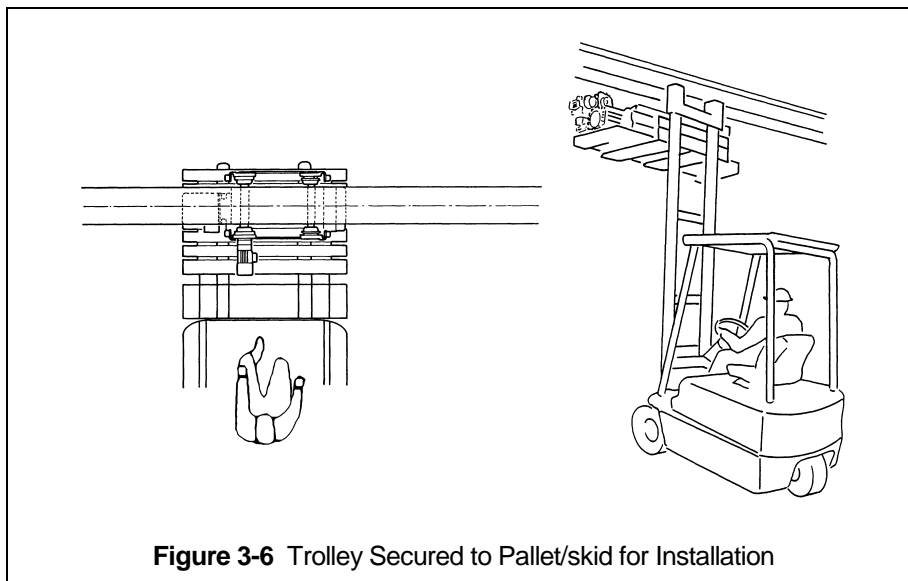

Figure 3-6 Trolley Secured to Pallet/skid for Installation
⚠ WARNING When installing the trolley hoist on a beam, ALWAYS raise the hoist into position with the trolley assembled together and securely attached to a pallet/skid. Raise the trolley hoist with a forklift, lifting platform, or other similar means. **NEVER** use slings to raise and install the trolley hoist onto the beam. Using a forklift or another suitable means, position the pallet/skid so that the horizontal axis of the beam is parallel to the horizontal axis of the trolley hoist as shown in **Figure 3-6**.
- 2) Install any additional devices, if any (power supply cords or pendants, for instance – see **Section 3.7**) onto the trolley hoist. If the trolley hoist is not secured to a pallet, place and secure it to one making sure that the trolley hoist is completely stable as shown in **Figure 3-6**.